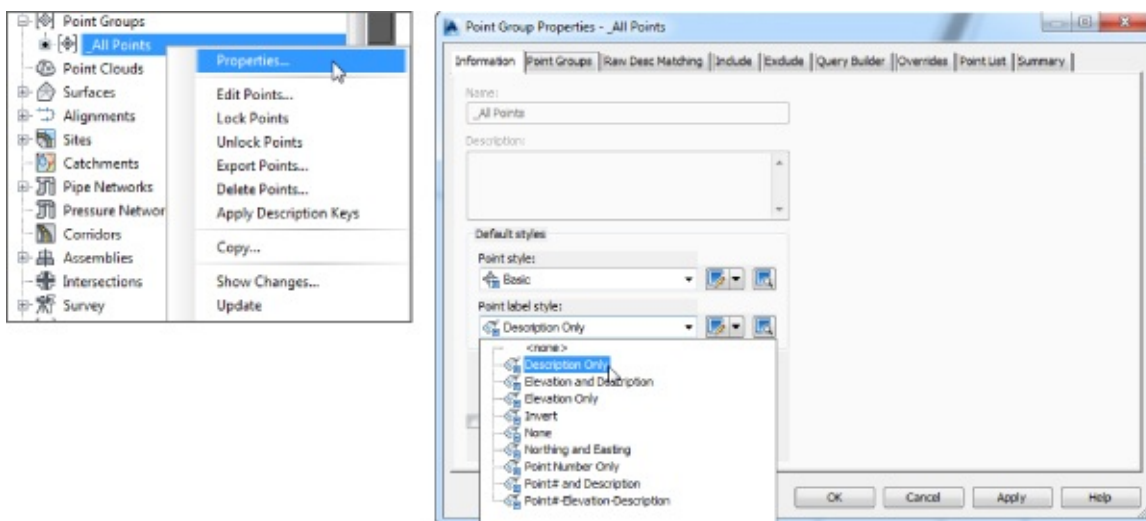

Figure 3.17 To assign a label style to the _All Points group, access its properties (left) and assign the desired style (right).
10. Right-click the **_All Points** group within the Point Groups collection in the Prospector tab of Toolspace and choose **Properties**, as shown in Figure 3.17. Then choose **Description Only** from the Point Label Style drop-down on the Information tab of the Points Group Properties - **_All Points** dialog. Click **OK** to exit the dialog.